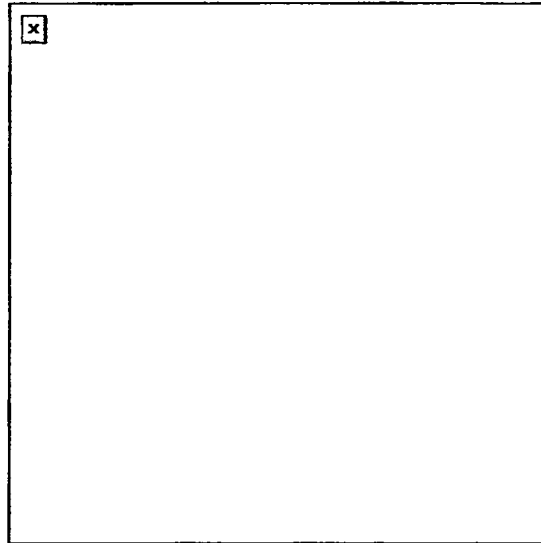

Figure 4. Palm-supported grip.
- (2) Palm-supported grip (Figure 4). Begin by gripping the weapon as previously described (Task Step 3). Place your nonfiring hand under your firing hand. Wrap your nonfiring fingers around the back of your firing hand. Place your nonfiring thumb over the middle finger of your firing hand.